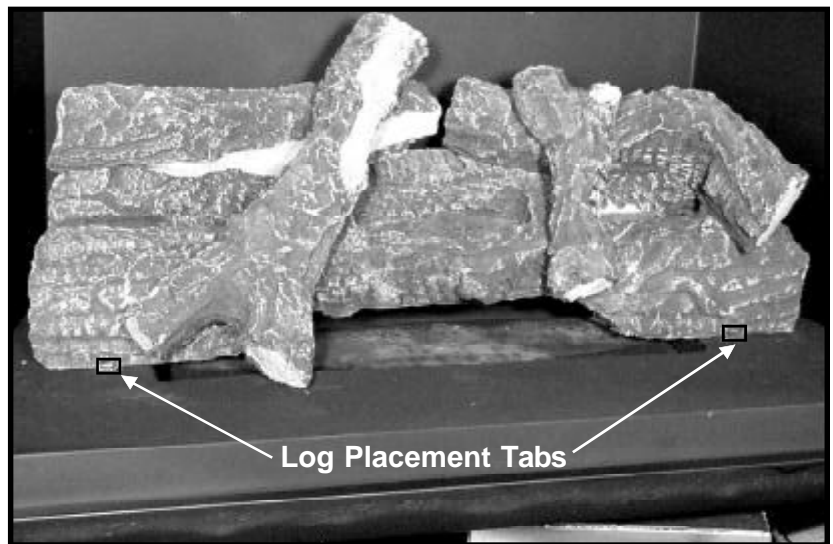

Figure 43
9. Carefully position the log set in place into the fireplace. Pull the log set forward until the log set contacts the log placement tabs. Center the log set in the firebox side to side (see Figure 43). (Grate removed for viewing.)